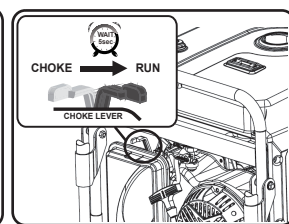

Fig 12
- Let engine run for several seconds and then gradually, as engine warms up, slide the choke lever towards the “RUN” position until the choke is fully engaged to the “RUN” position. (See fig 12)